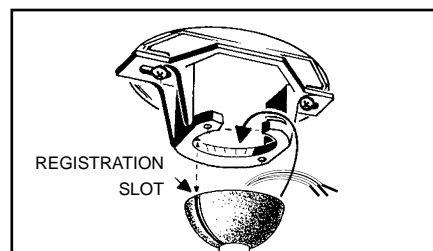

Fig.9
Step 6. Now lift motor assembly into position and place downrod ball into hanger bracket. Rotate until the check groove has dropped into the registration slot and seats firmly. Rod should not rotate if this is done correctly. (Fig. 9)